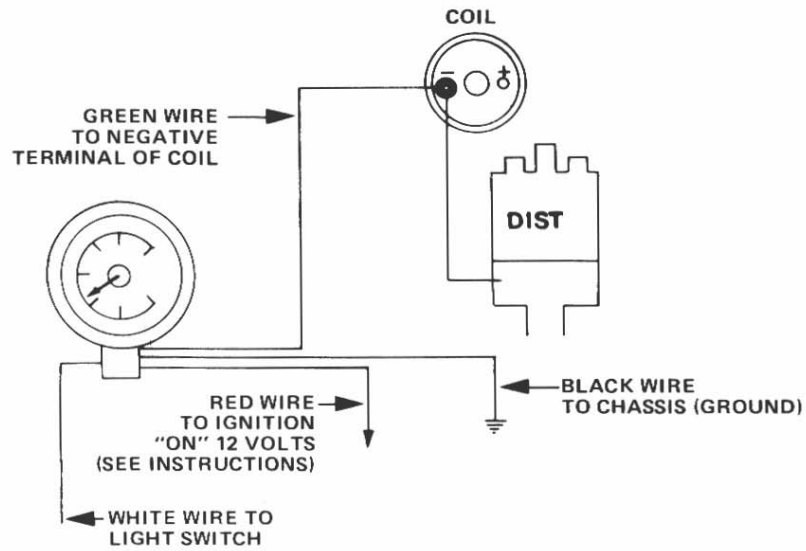

FIGURE 3
4. The "GREEN" wire is the ignition sensing lead. This wire is connected to the negative (-) terminal on the coil. On electronic ignitions the "GREEN" wire is connected to the negative (-) terminal on the coil or to the Tachometer hook up. (See figure 3.)
5. The "RED" wire is how the Tachometer receives its power. This wire should be connected to a point in the electrical system that is switched "ON" by the ignition switch. This is easily done at the fuse box. The wires that go to the radio or instruments are the best. (See figure 3.)
6. The "WHITE" wire is connected to the instrument lamp terminal of the light switch. (See figure 3.)
7. The "BLACK" wire is ground. Connect this wire to a good ground point under the dash board. (See figure 3.)